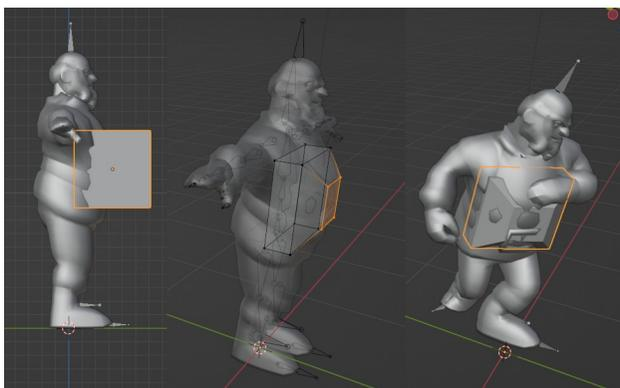

Figure 11-4 Making a Soft Body to Deform the Peasant Man's Belly
2. The peasant man will be submerged inside the cube so select the cube that will become the soft body, and scale it down so it's about the size of the belly area then move it in the Y and Z directions so one side is just inside the man's body as on the left of Figure 11-4, this is most easily done in orthographic view. Just to preempt any confusing behavior later, select **Object ▶ Apply ▶ All Transforms**.
3. In Edit mode add an edge loop then scale and move the vertices to more closely match the shape of the belly as in the middle of Figure 11-4.
- When you change the armature Skeleton back to **Pose Position** from Rest Position you should see the soft body move with the armature as shown on the right of Figure 11-4. Of course you haven't actually made it into a soft body yet, so select the soft body object and add a soft body modifier. All the settings for soft bodies are in the Physics Properties tab so open that and expand the Goal section. In order to attach the pins vertex group to its start position but allow the rest of the body to deform, set the Vertex Group to **pins** and the Strengths Default to **1.0**. To prevent the soft body being too soft, increase the Strengths Min to **0.8** and set Settings Stiffness to **0.9** and Damping to **4.0**. It will also be more realistic if you increase the Object Mass to **2.5**. All of these values, plus others will probably need adjustment depending on the kind of object you are hoping to simulate. Run the simulation to see how it looks.